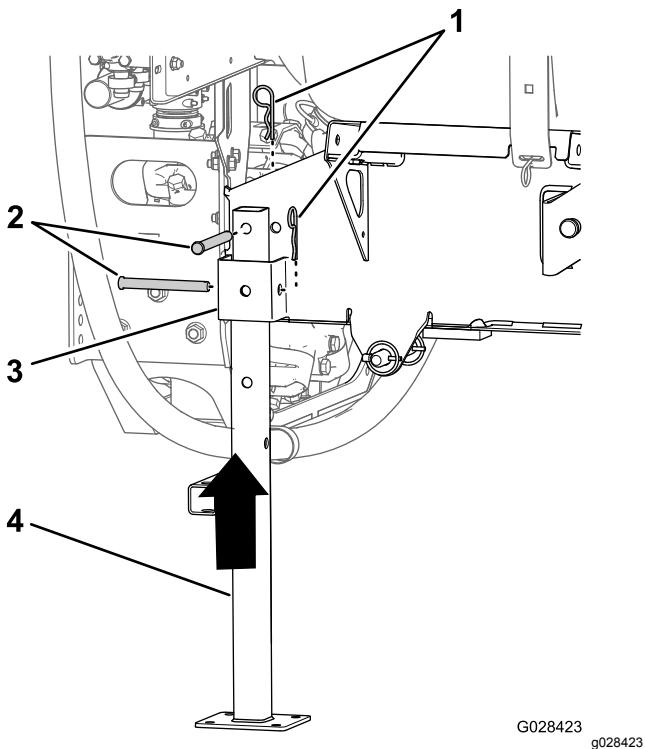

Figure 106
5. Align the rear jackstand with the rear jackstand receiver (Figure 106).
6. Align the hole in the top of the jackstand with the hole in the frame of the tank skid (Figure 106)
7. Secure the jackstand to the receiver and the frame with 2 clevis pin (1/2 x 4-1/2 inch) and 2 hairpins (5/32 x 2-5/8 inch) as shown in Figure 106.